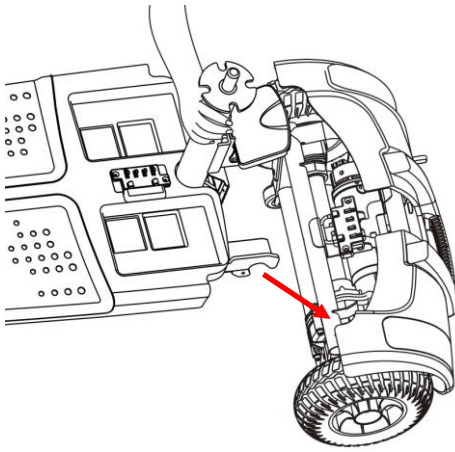

Fig 4.1.6
2. Set the rear section in the up position and make sure the hook for the front section is connected to the axle of the rear section. (See Fig 4.1.6)